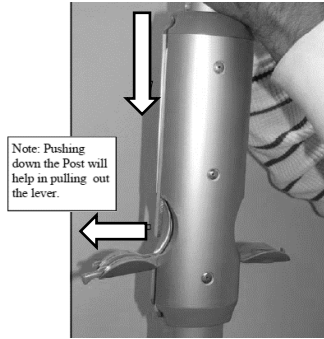

Figure 11: Lever Out
- The lever moves out (Figure 11).